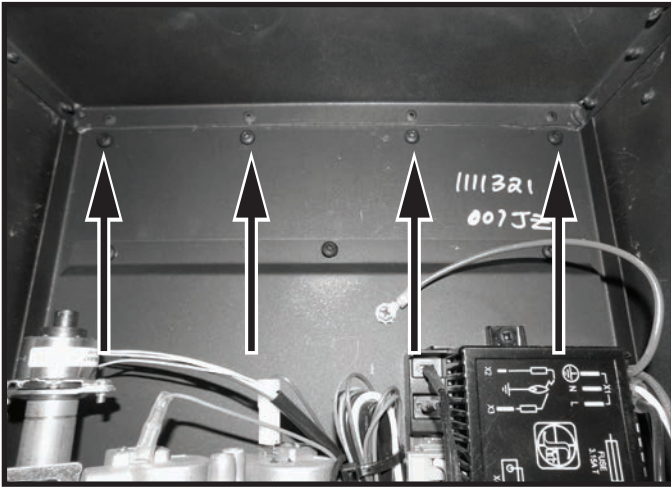

Figure 64: Control panel securing screws.
15. Remove the four screws located at the top of the control panel as shown in Figure 64.